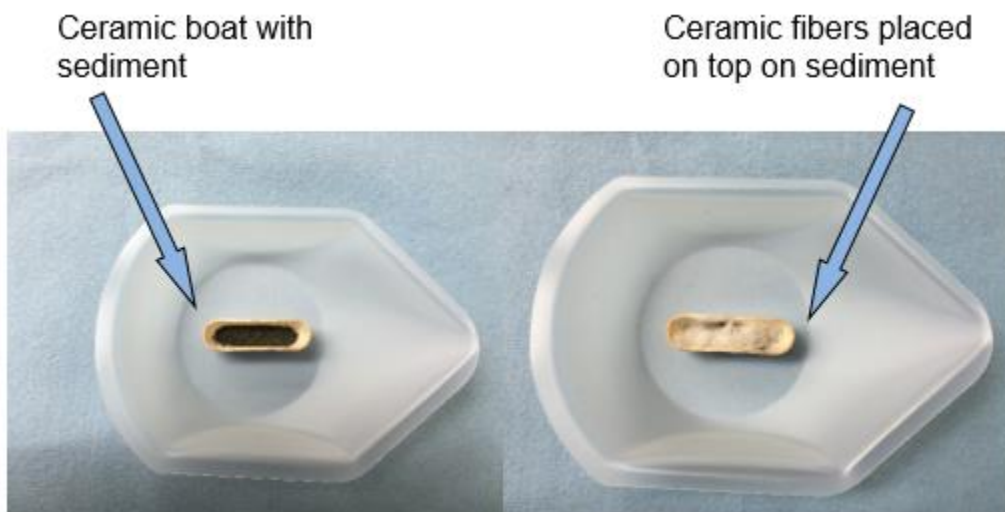

Figure 9. Left image shows the ceramic boat with sediment sample. Right image shows ceramic fibers placed on top of sediment sample.
- 4.1.4 Using tweezers, remove boat from the balance. Gently tap the ceramic boat to evenly distribute the sample (Figure 9).
- 4.1.5 Using tweezers, place ceramic fiber on top of sample (Figure 9) this will prevent splattering in the TC chamber of the SSM-5000.